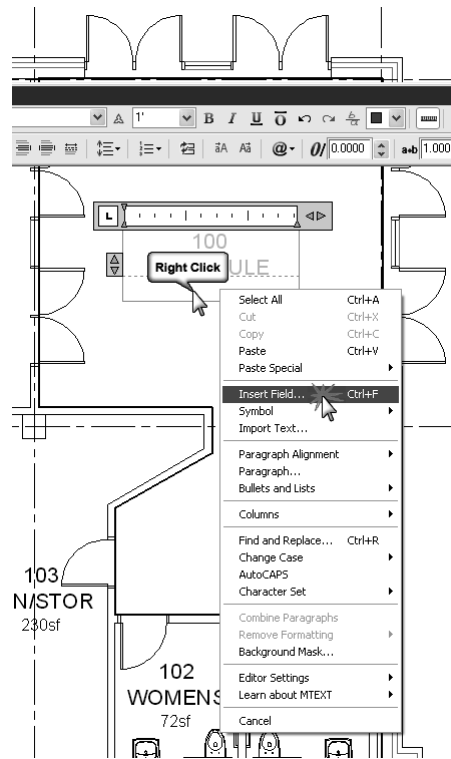

Figure 3-4.4 Adding a field
12. Select **Insert field...** (Figure 3-4.4).